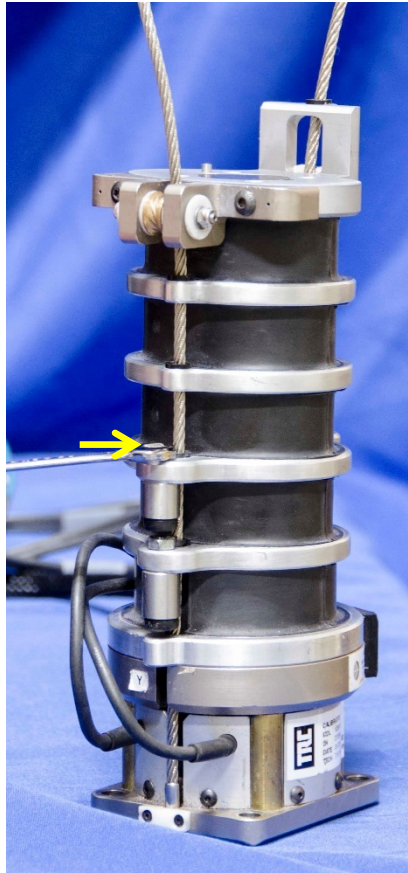

Figure 4-26. Install upper neck stop assembly
4.2.2.15 Install the upper neck stop assembly using an M5 x 0.8 x 12 HHCS (Figure 4-26).